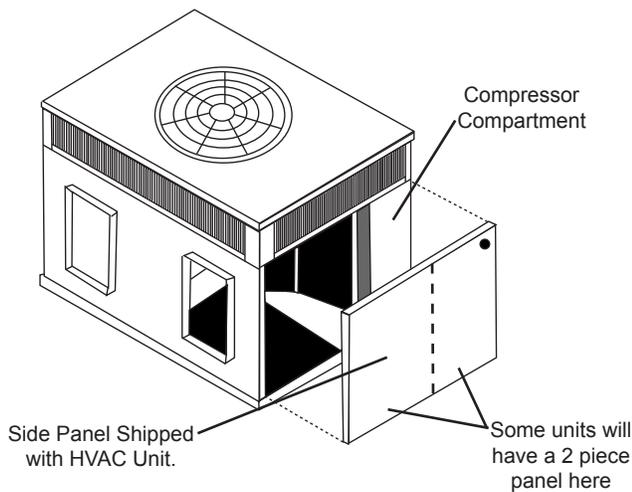

Fig. 5 - Panel Removal
1. Remove the filter access panel on the HVAC unit. See Fig. 5.